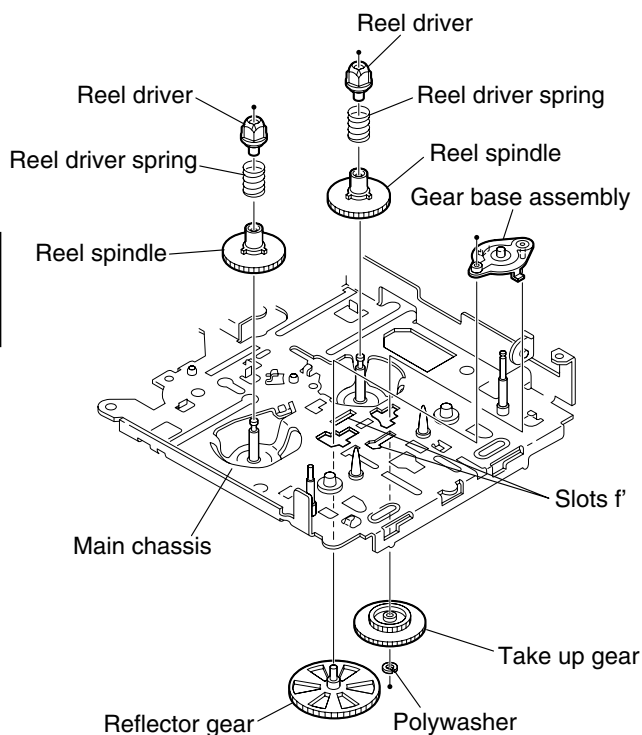

Fig.36
■ Removing the reel driver / reel spindle (See Fig.36)